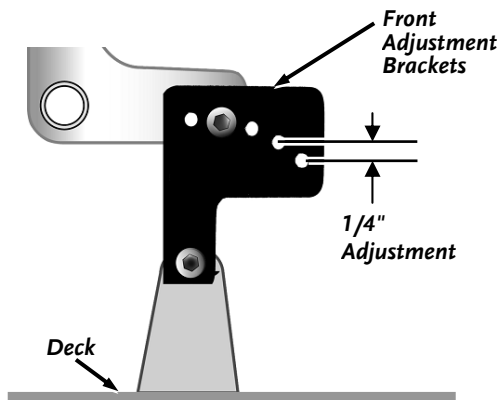

Figure 22
3. You can make further adjustments front to back by adjusting the Front Brackets (**Figure 22**). Each adjacent hole will alter the deck height by 1/4" front to back if you move both Front Brackets at the same.